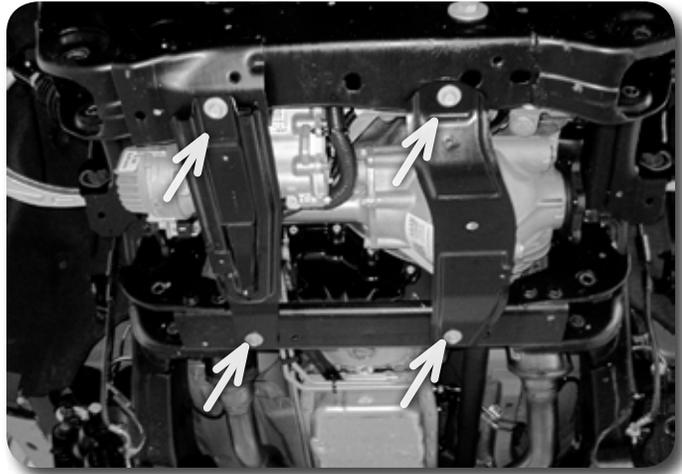

Figure 11
22. Remove the crossmember struts. **Figure 11**